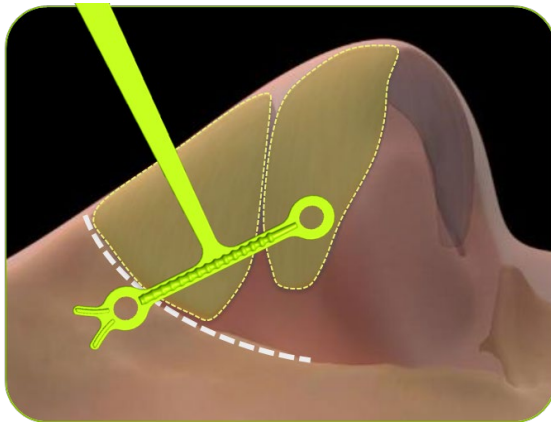

Figure 4: Implant Positioning Guide superimposed on upper and lower lateral cartilage
4. Use the Implant Positioning Guide to mark the surgical trajectory as shown in **Figure 4** using a standard surgical pen. The holes provided on the Implant Positioning Guide allow for marking the base of Implant forked tip and the spherical end of the atraumatic proximal tip. The distal mark correlates to the final position of the cannula tip prior to Implant delivery.